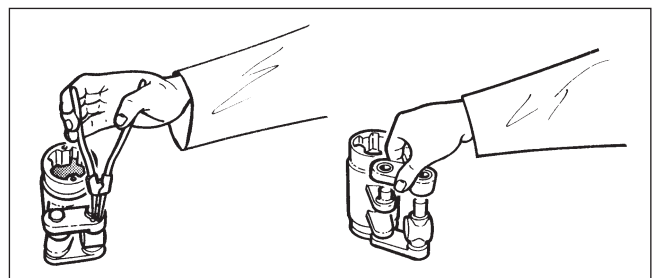

Fig. 14 Dismantling the linkage
- Remove the lock rings (36) and the support rings (37).
- Loosen the connection arms (4) and ring (4A), clean them and check the condition of the bearings, see Figure 14.